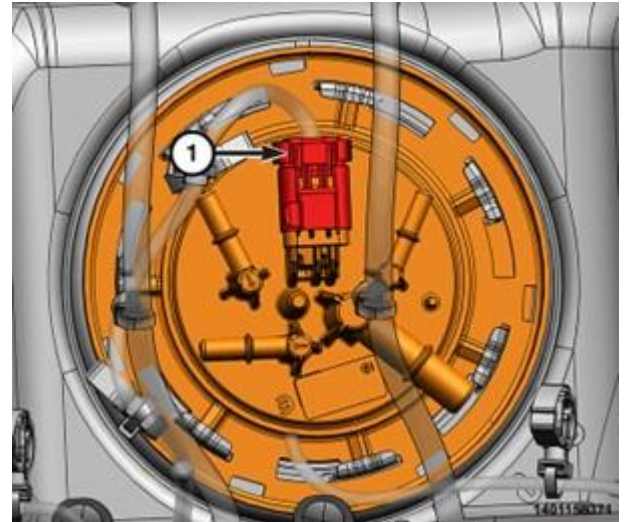

Figure 85 – Tank Module Connections
- 163. Connect the fuel pump module wire harness connector (1) (Figure 85).